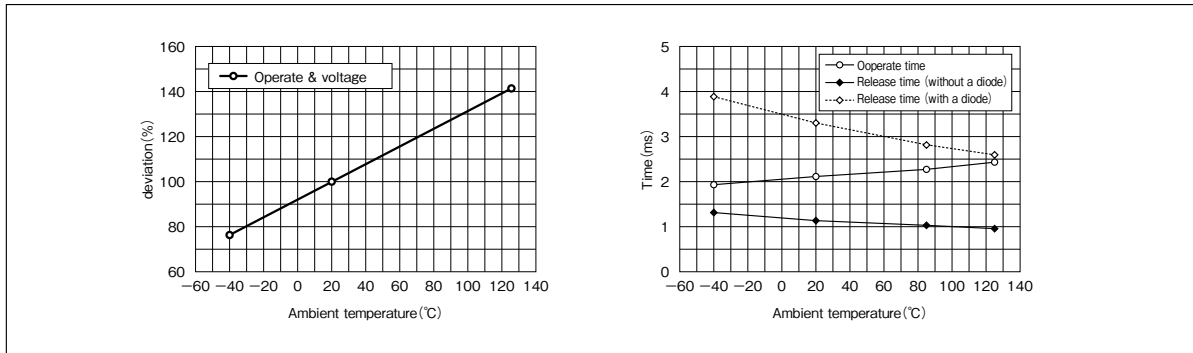

Fig.4 Temperature Characteristics of Relay (Example)
- ① It is possible to use the relay at the rated coil voltage within the operating temperature range. Note, however, that at the upper limit of the operating temperature range the permissible voltage on the coil may be restricted, and must be confirmed before the relay is used.
- ② The must operate voltage, must release voltage, operate time and release time change with the ambient temperature. Refer to Technical Documents to confirm that the relay operates normally at a particular operating temperature. Fig.4 shows an example of the temperature characteristics of the relay.